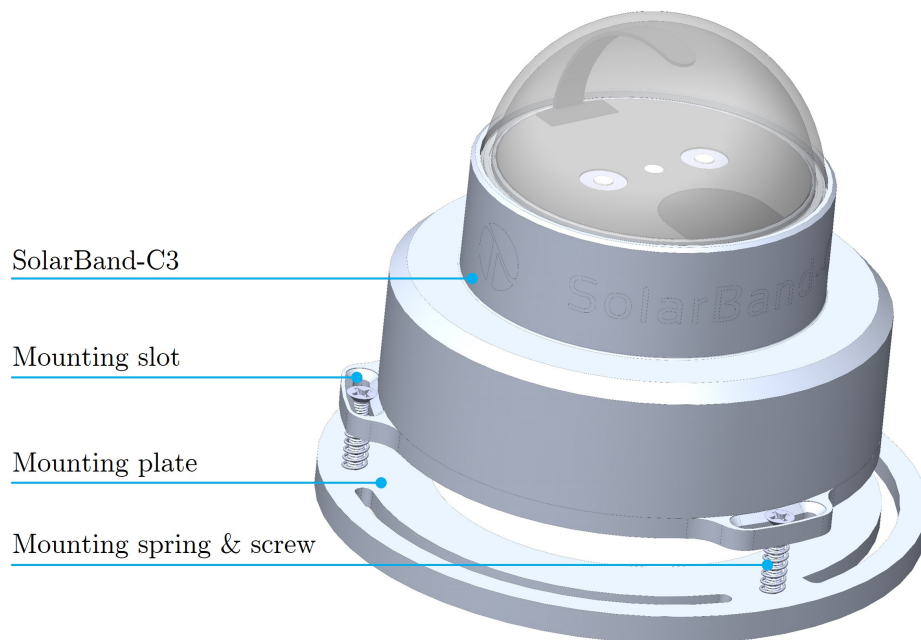

Figure 3: Assembled SolarBand-C3 on a mounting plate.
2. Mount the SolarBand-C3 using the supplied screws and springs, as shown in Figure 3. Orient the connector away from the equator, i.e. pointing North in Northern Hemisphere (or South in the Southern Hemisphere), as illustrated in Figure 4. Use a digital compass if needed.